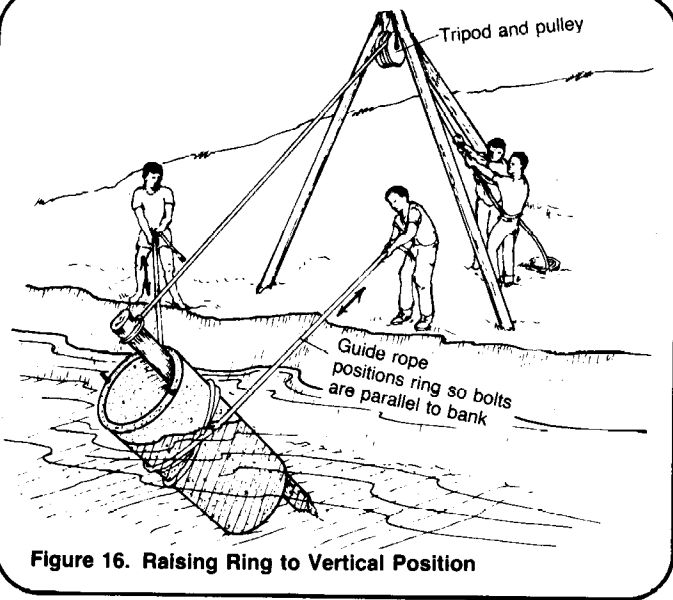

Figure 16. Raising Ring to Vertical Position
4. To stand the ring upright, use tripod with a pulley placed in the stream bed. Tie a rope around the ring and lift it into place. A long strong piece of wood can be used as a lever to lift the ring. Place the lever inside the ring and with several workers lift it into place. It may be necessary to tie a rope to the top of the lever so that people standing on the bank can pull the ring into an upright position. See Figure 16. Be sure to dig down at least 0.5m to sink and anchor the ring. Level the ring in the stream bed by removing debris below it. The bolt in the ring must be in line at a right angle to the bank.